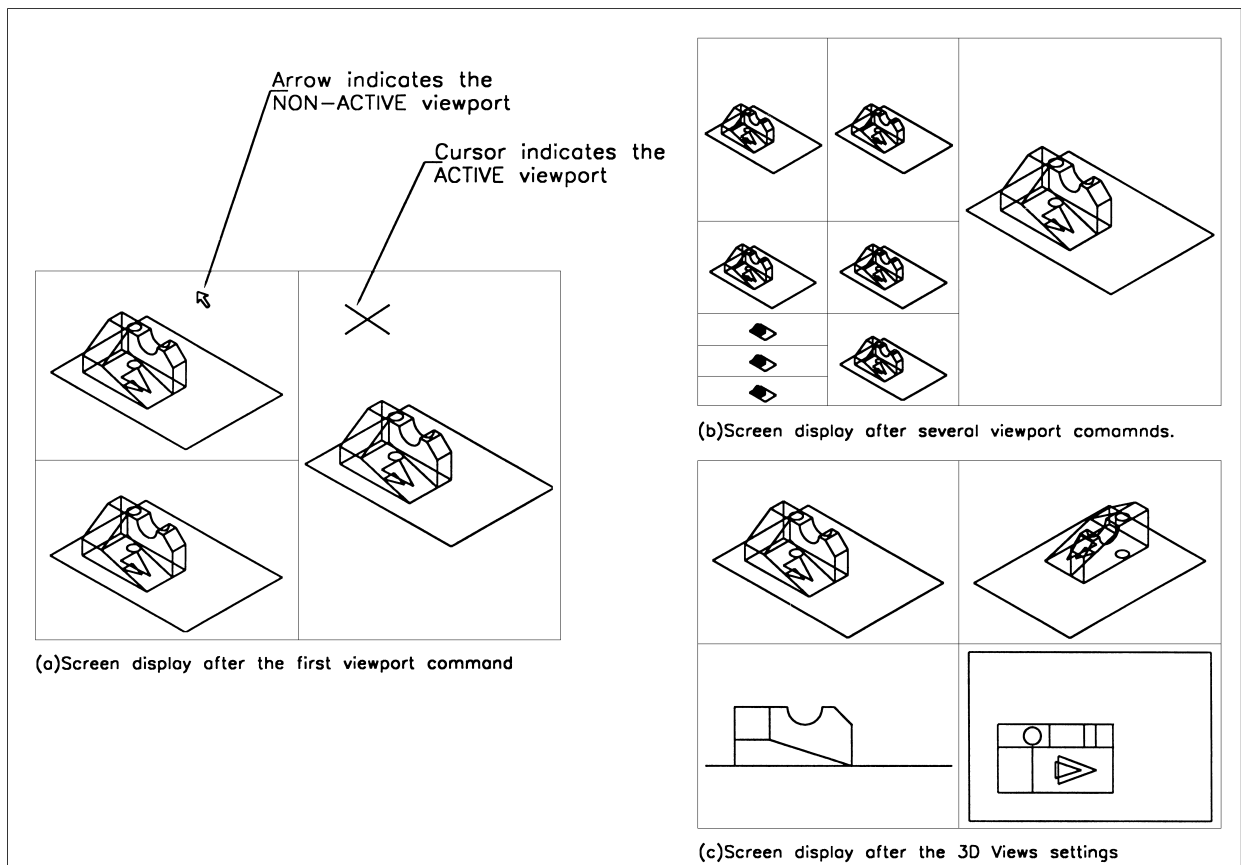

Figure 9.2 Viewport example 1.
- a) be divided into three separate 'areas' – one large at the right and two smaller to the left. The three viewports will 'fill the screen' as Fig. 9.2(a)
- 14 The lower left viewport will be further divided into another three viewports and at this stage your screen should resemble Fig. 9.2(b)
- 20 The screen display should resemble Fig. 9.2(c)